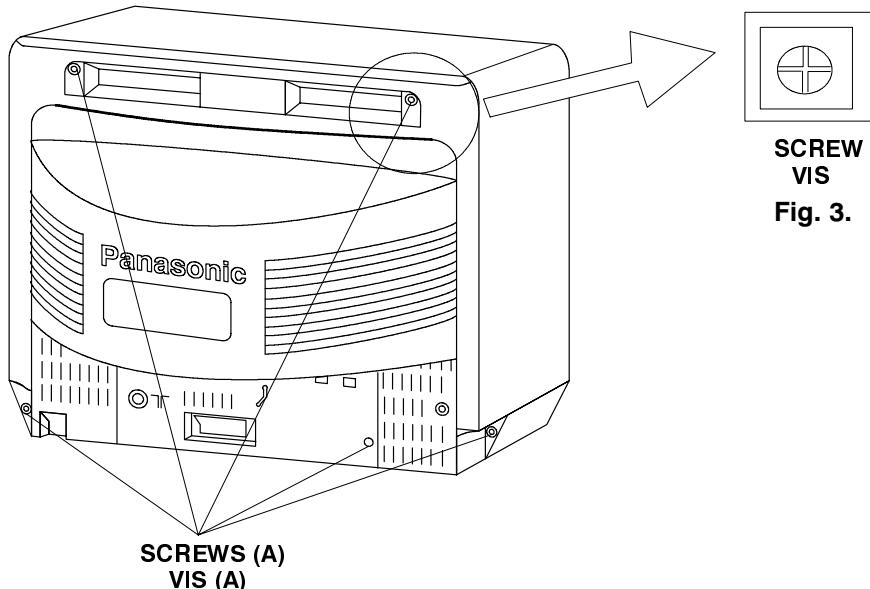

Fig. 2.
1. Remove the 5 screws (A) as shown in Fig.2/Fig.3.
1. Retirer les 5 vis (A) comme sur la Fig.2. / Fig.3.